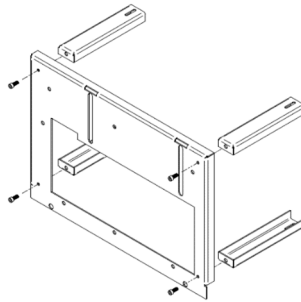

Figure 31 - Auxiliary table assembly
- Protect the surface on which you are going to work. The four legs of the table should be attached by hand with four DIN 912 M8x20mm screws as shown in Figure 31. The rest of the assembly will be easier to perform. As indicated in Figure 31.